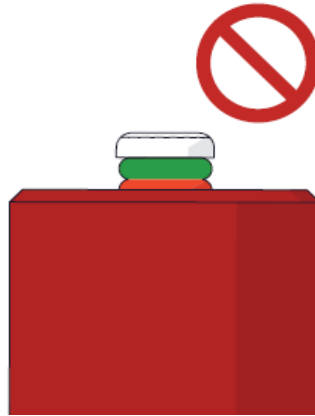

Figure 1-44 Too much pressure
- If there is too much pressure (see Figure 1-44 on page 57), disengage the motor engage handle and decrease the tension.